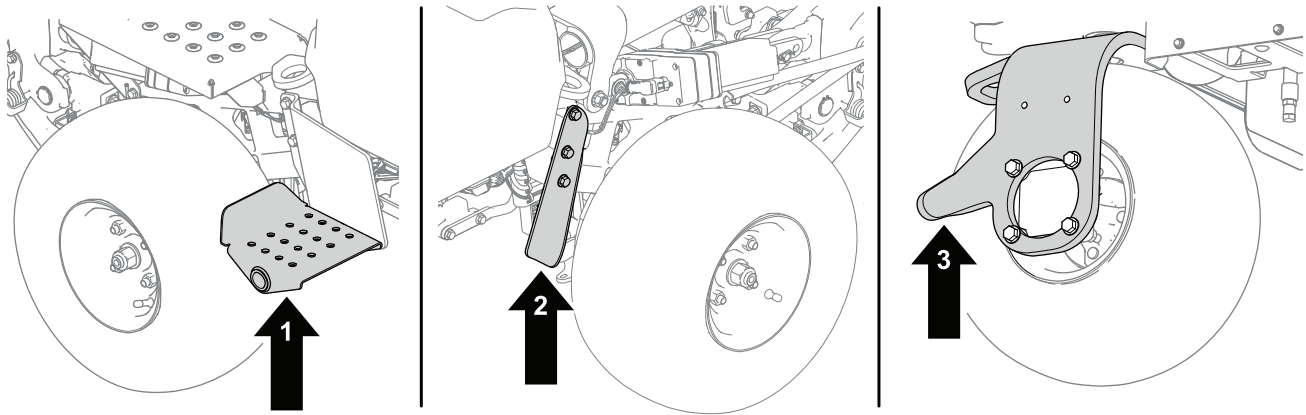

Figure 35
1. Position a jack at the desired jacking point (Figure 35):